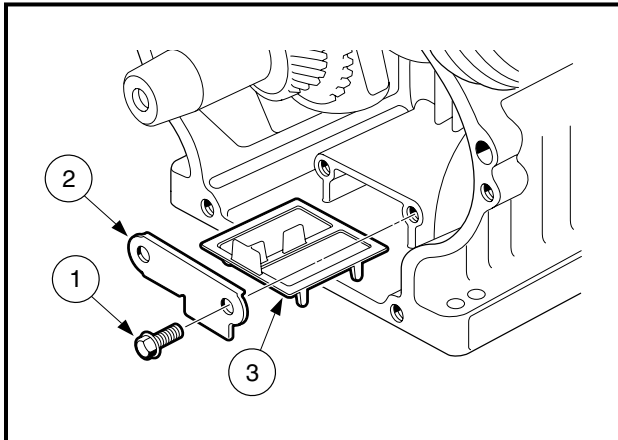

Figure 18-80 Oil Screen Removal
1. Remove the two bolts (1) to take out the oil screen plate (2) and the oil screen (3) (**Figure 18-80, Page 18-38**).